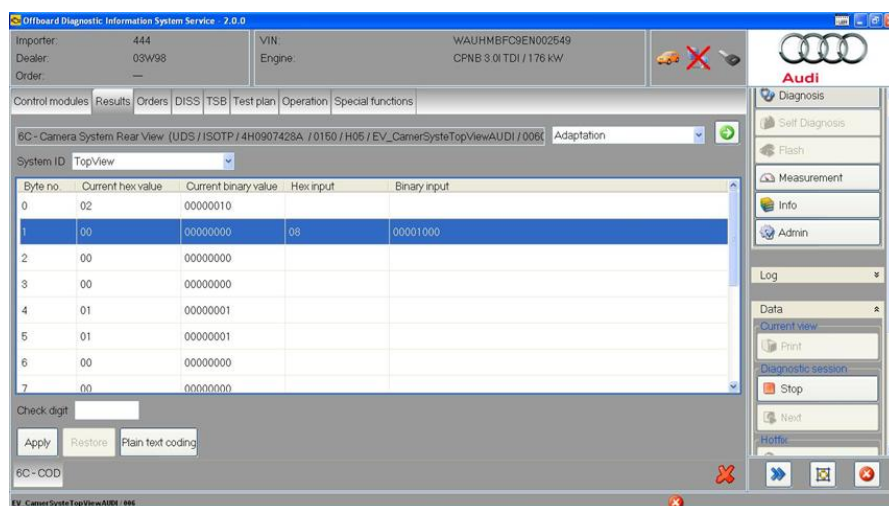

Figure 7. New HEX value entered. Click Apply button.
5. Choose Apply again (Figure 7).